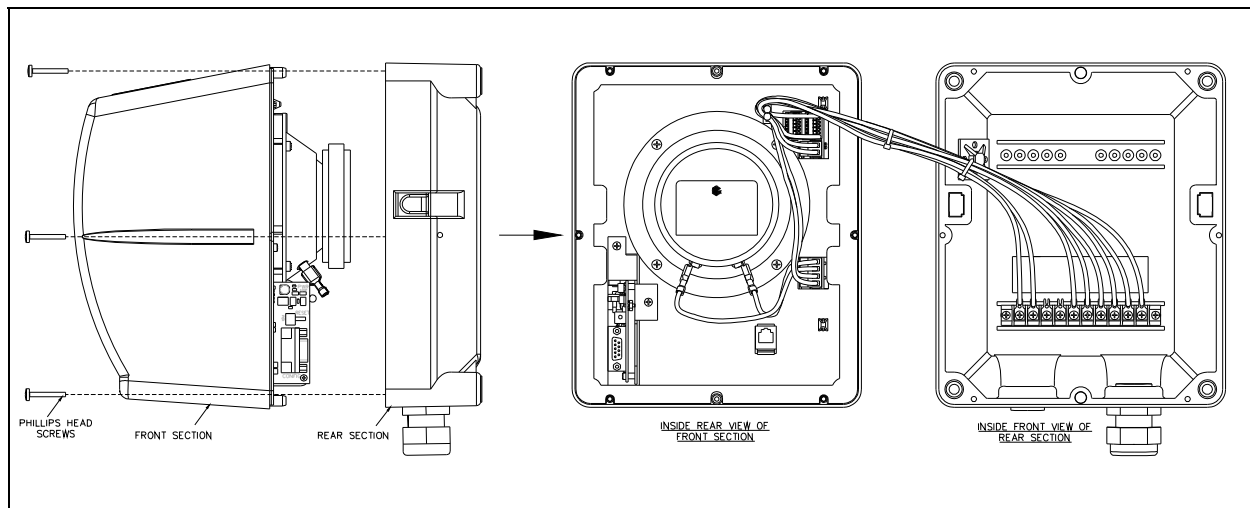

Figure 7: Addressable Amplified Speaker (Model 13382 shown)
3. Lift the front section straight up and flip to the left-hand side of the rear section (see Figure 7).